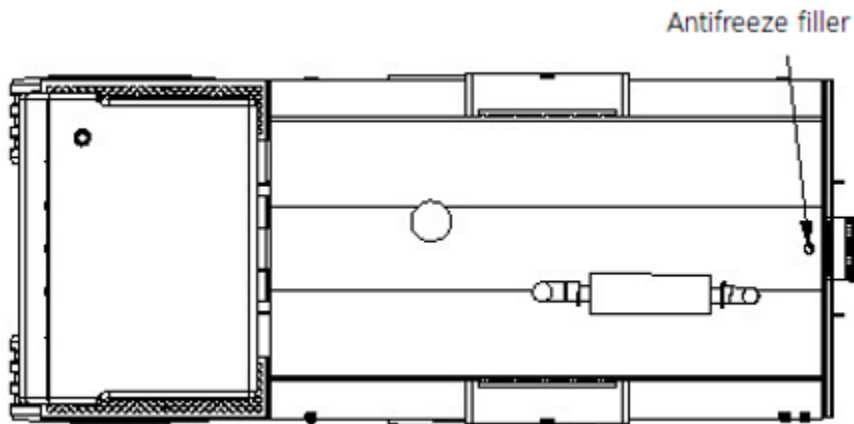

Figure 8.4.2-1 schematic diagram of adding coolant
- While operating the equipment, it is necessary to observe the water temperature of the engine. If the water temperature rises suddenly, it is likely there is a coolant shortage in the cooling system. At this time, stop the engine immediately after idling for a period of time, and then wait for the coolant to cool before filling. The position of the filling port is shown in figure 8.4.2-1 below, and the filling steps are as follows: